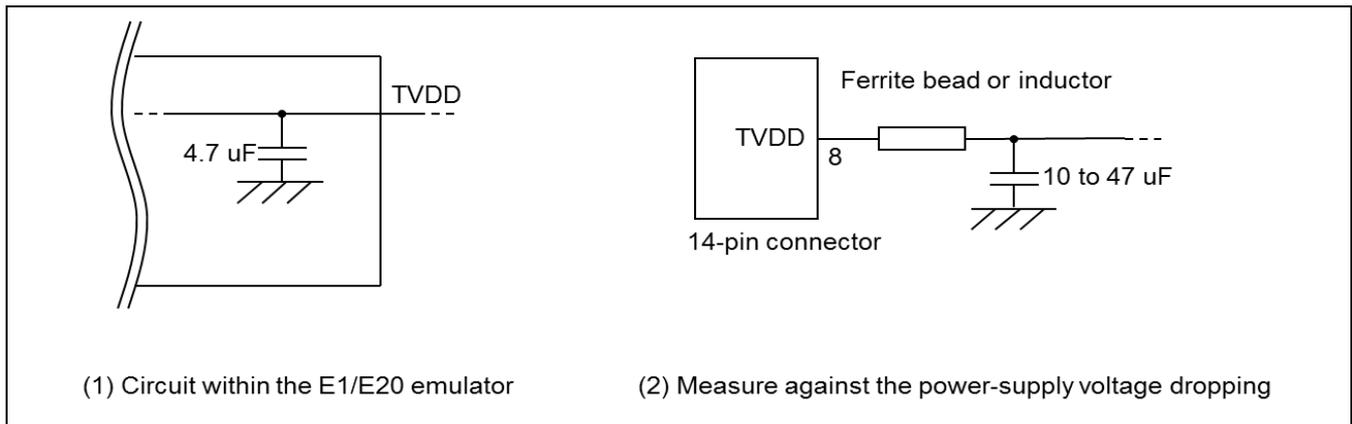

Figure 2-9 Circuit Configuration for Hot Plug-in
If there is a possibility you will be using hot plug-in connection, you will need to configure the circuit as shown below. Pin 8 of the E1 emulator is connected to a 4.7- μ F capacitor as shown in (1) in Figure 2-9, so hot plug-in connection of the emulator may lead to a momentary drop in the power-supply voltage on the user system. This might cause the MCU to be reset.
As shown in (2) in Figure 2-9, this effect can be reduced by placing a ferrite bead (or inductor) and relatively large capacitor with low equivalent series resistance near the TVDD line of the connector for connection of the emulator. However, this measure will not completely eliminate the voltage drop. Note that hot plug-in connection is only for use during debugging, and a separately sold hot plug-in adapter is necessary to use this function otherwise.